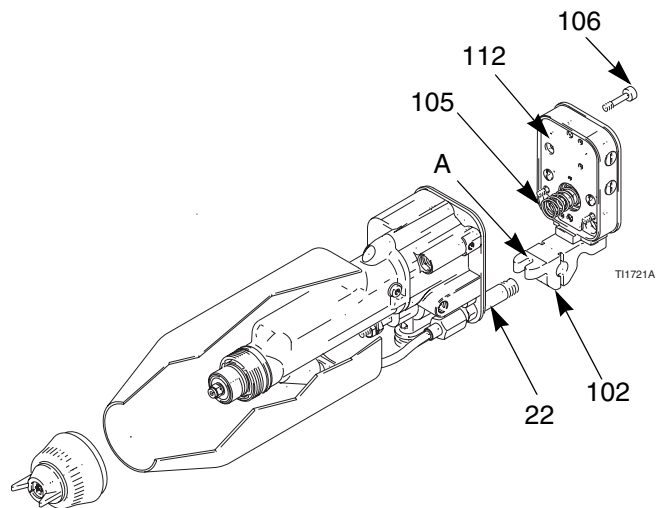

Fig. 22. Remove Gun from Manifold
1. Remove the fluid supply hose from the fluid fitting (22).
2. Loosen the bottom gun screw (31) until the gun sits loosely in the mounting bracket slot (A). See FIG. 22..
1. Make sure the gasket (112) and spring (105) are in place on the manifold. See FIG. 22.. Inspect the parts for damage and replace them as needed.
2. Secure the gun to the manifold by tightening the three screws (106).
3. Secure the gun to the mounting bracket (102) by tightening the bottom screw (31).